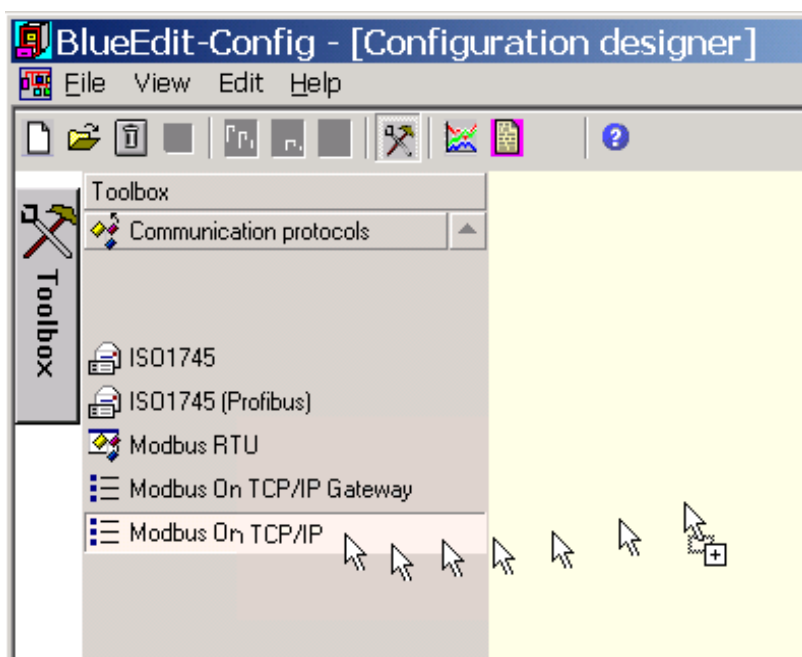

Fig. 11: List of available communication protocols
- Draw one of the listed instruments (KS108) onto the spreadsheet using the left mouse key (as shown in Fig. 11: List of available communication protocols). A dialog window containing settings (instrument description, etc.) is displayed. Enter a name for the instrument.